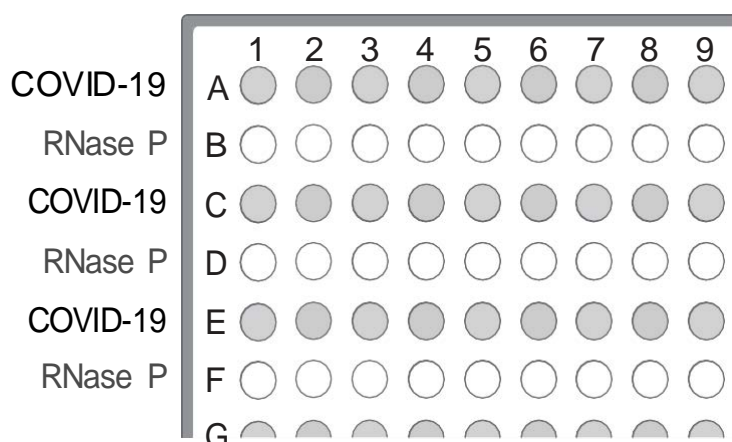

Figure 1 Assays in alternating plate rows
- a. Starting with row A, pipet 15.0 µL per well of the COVID-19 Reaction Mix into every other row of a MicroAmp™ Fast Optical 96-Well Reaction Plate with Barcode, 0.1 mL or a MicroAmp™ Optical 96-Well Reaction Plate with Barcode, 0.2 mL. See Figure 1 on page 53.